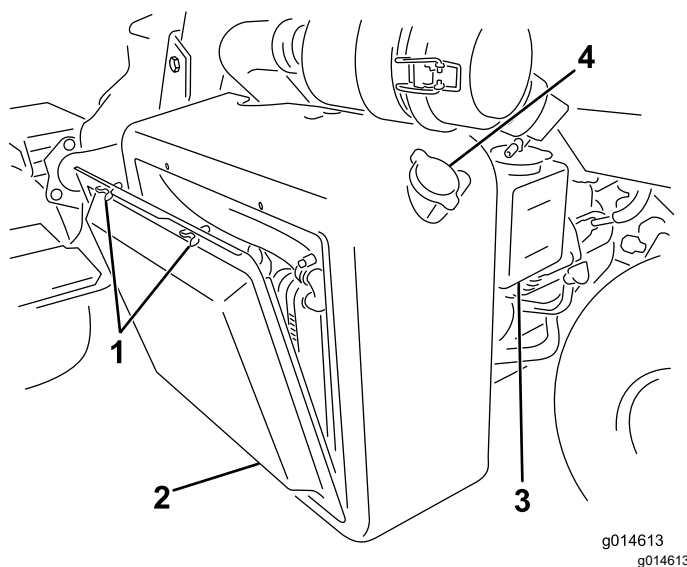
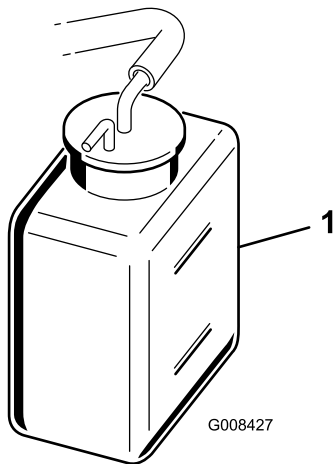

Figure 45
Figure 46
1. Remove the radiator screen (Figure 45).
2. Check the coolant level (Figure 45 and Figure 46).